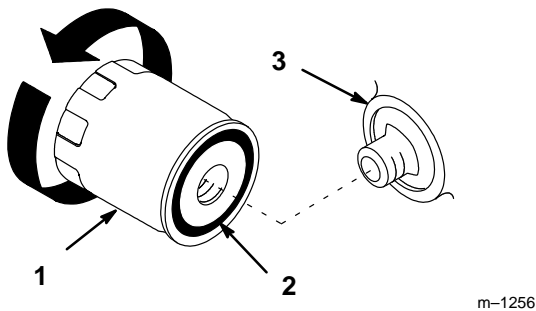

Figure 19
2. Remove the old filter and wipe the filter adapter (Fig. 19) gasket surface.
4. Apply a thin coat of new oil to the rubber gasket on the replacement filter (Fig. 19).
5. Install the replacement oil filter to the filter adapter. Turn the oil filter clockwise until the rubber gasket contacts the filter adapter, then tighten the filter an additional 1/2 turn (Fig. 19).